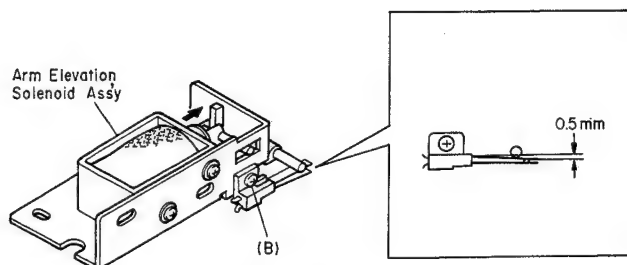

Fig. 5.5
- (1) Remove the Arm Elevation Solenoid Ass'y referring to item 4.1.
- (2) With pushing the solenoid shaft in the direction of arrow, adjust the screw (B) so that the deflection of the switch is approx. 0.5 mm as shown in Fig. 5.5.